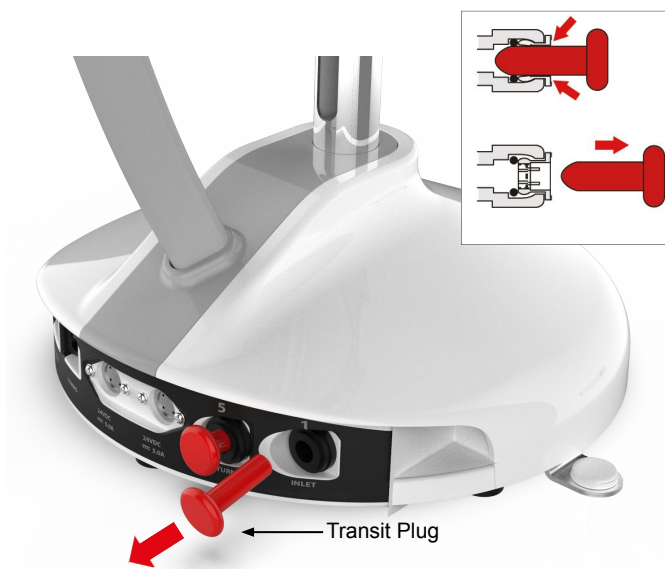

Fig.9
a. Remove the transit plug from Port 1 water inlet connection. (Fig.9)